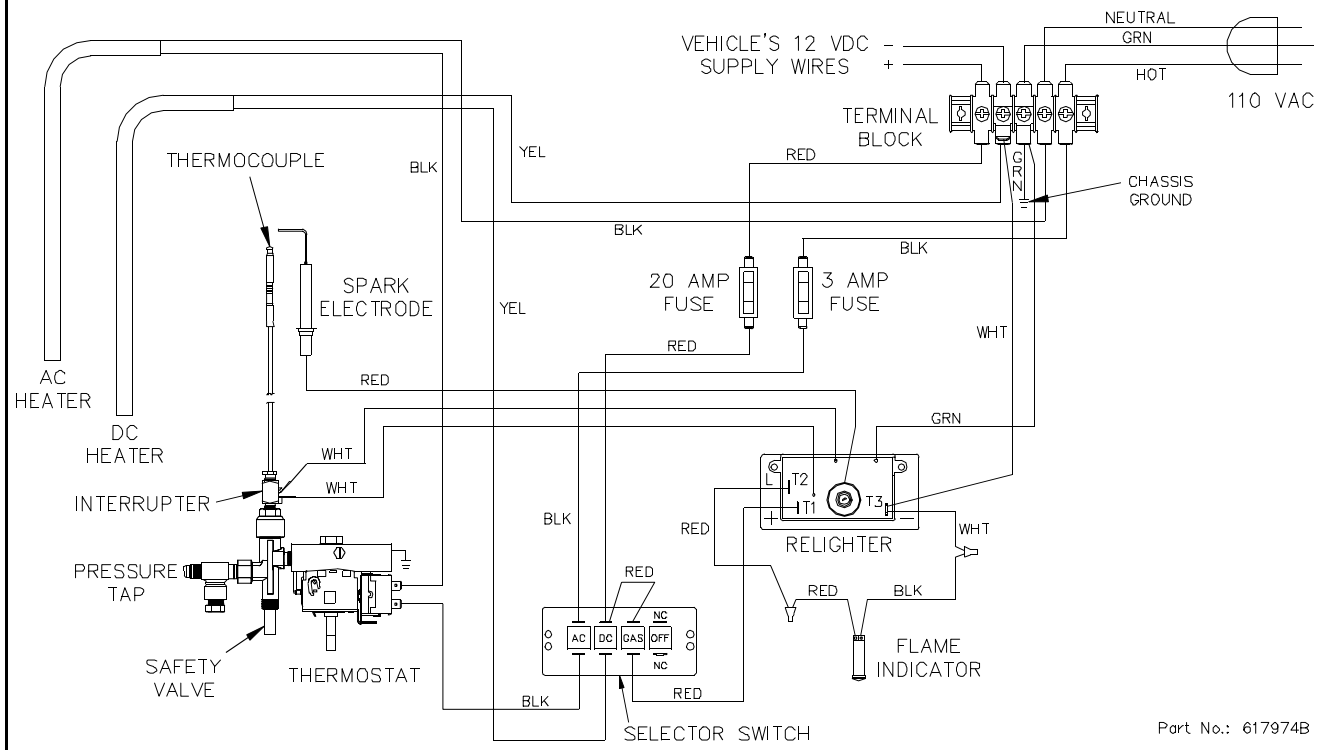

Figure 1 - Before Upgrade
10. Disconnect the vehicle's 12 volt DC supply wires from the refrigerator's terminal block (Figure 1).
7. Disconnect the vehicle's 12 volt DC supply wires from the refrigerator's terminal block (Figure 1).